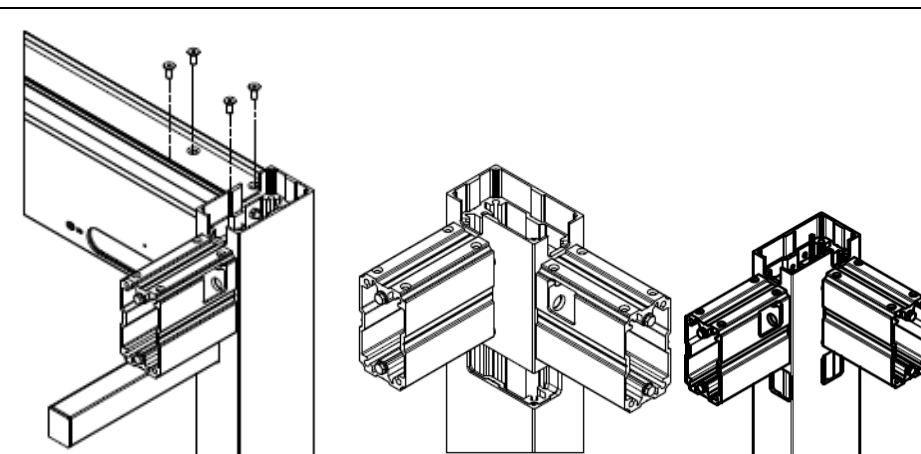

Figure 20
3. At both ends, slide the posts to the cross beam (with previously mounted feet) and screw from the side of the upper chamber of the beam using 4 countersunk screws M8 x 20 with an Allen socket (fig. 20-left).
4. On the side of the angular overflows the posts have corner cuts in both walls under the bone (fig. 20-middle), and in case of straight overflows the posts have separate rectangular windows (fig. 20-right).